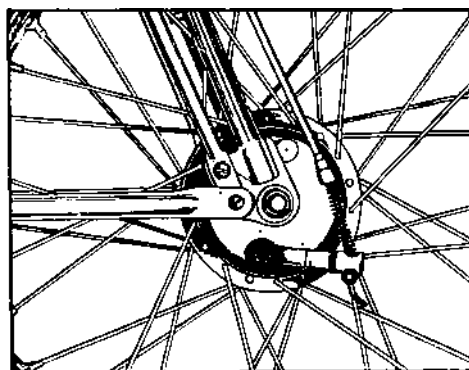
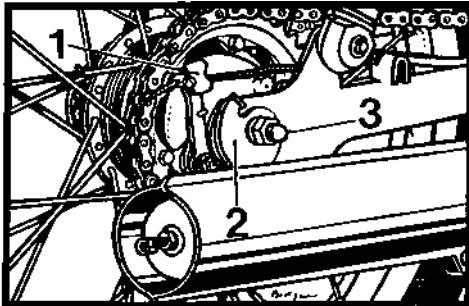

Fig. 15 — Front brake adjustment
Fig. 16 -- Rear brake and engine chain slack adjustment
When it is no more possible to adjust the brakes by means of the adjusting screws on handlebars, adjust the tension of the brake bowden cables on brake cams [1] (Fig. 15 and Fig. 16), and then correct the adjustment using the adjusting screws on the handlebars.
Adjust the engine chain slack after loosening the rear wheel spindle nut (3, Fig. 16). By tightening the chain tensioner nuts (2) on both sides of the frame tension the chain so that it sags 15 mm under thumb pressure. After having adjusted the chain slack, it is necessary to check the track of the wheels (alignment of wheels) using a straight lath. Do not forget to retighten the wheel spindle nut.